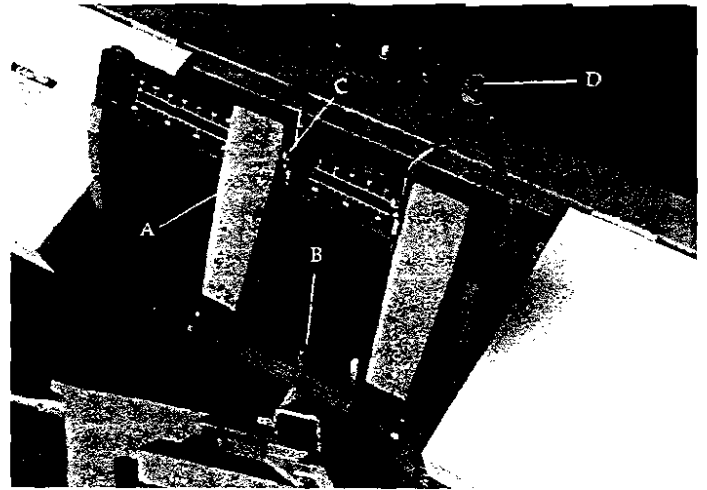

FIG.10
5. Make sure the left blade guide bracket (A) is adjusted as close as possible to the left vise jaw (B) Fig. 10
6. Turn the machine on and if your machine is equipped with a coolant system, adjust coolant flow by turning lever (C) Fig.10.
7. Turn the feed rate lever (D) Fig 10, counterclockwise until the saw blade begins to lower the desired rate of speed.
8. Proceed to cut throughout the workpiece, as shown in Fig. 10. The machine shut off upon completion of cut.